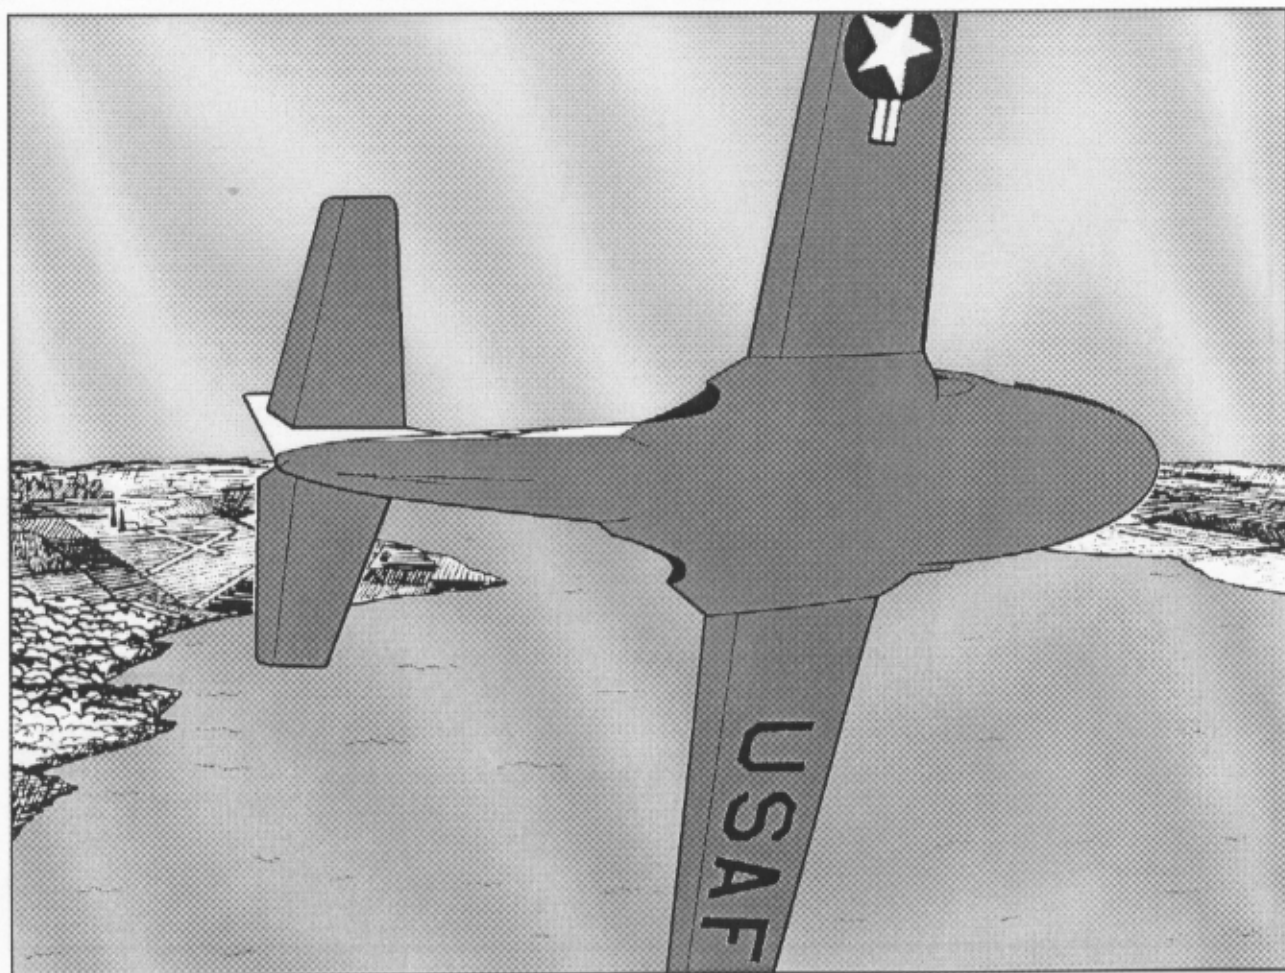

Figure 8.6. Echelon.
8.15. Echelon. Echelon is a variation of fingertip (figure 8.6). Lead will direct the formation to enter